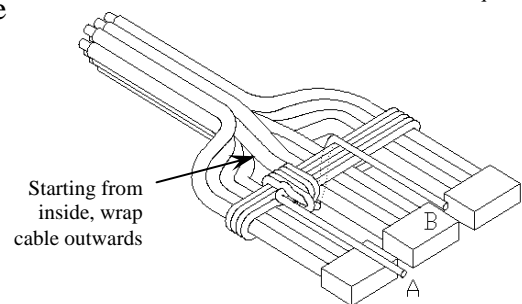

Figure 8: Wrapping the Space between Cables
2. Wrap the rope several times (Figure 8) until the space between the conductors are completely filled.